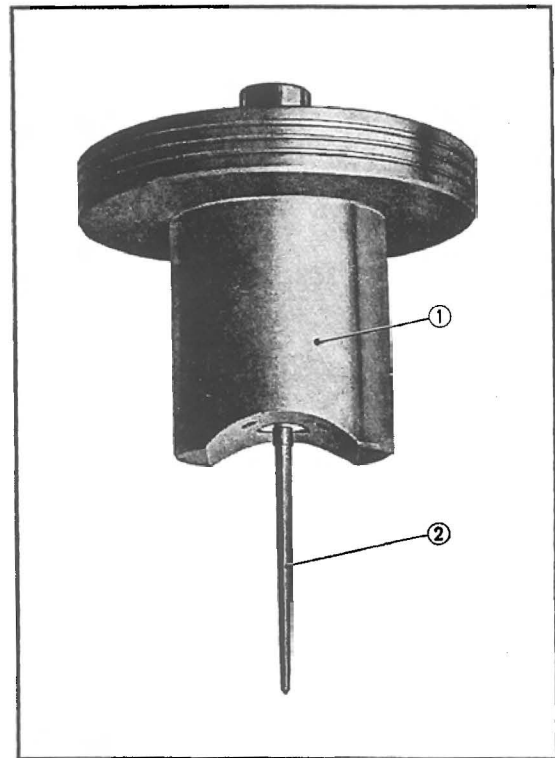
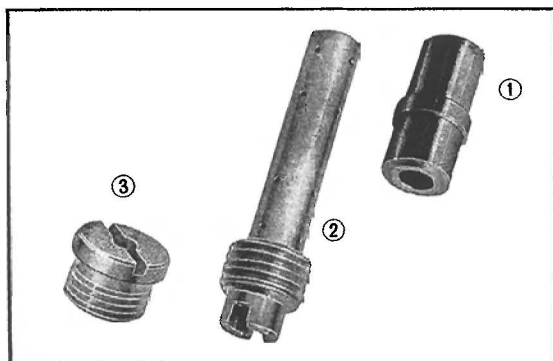

Fig. 3.124 Vacuum Piston
Fig. 3.126 Main jet, needle jet holder, and needle jet
Air passed through the air cleaner is inhaled by engine from the air intake (2) through (1) and (15). In the venturi portion (1), (16) is projected and lowered by its own weight to the direction to minimize the venturi area. (Fig. 3.124)
- ① Gasket
- ② Valve seat
- ③ Valve
- ④ Float
from the needle jet. (Fig. 3.126). When the vacuum piston is fully closed (when it works as the primary venturi) or when the vacuum piston is half closed, the tapered portion of the jet needle installed on the vacuum piston (16) squeezes the fuel in order to prevent excessive fuel passage from the needle jet. (Fig. 3.124)